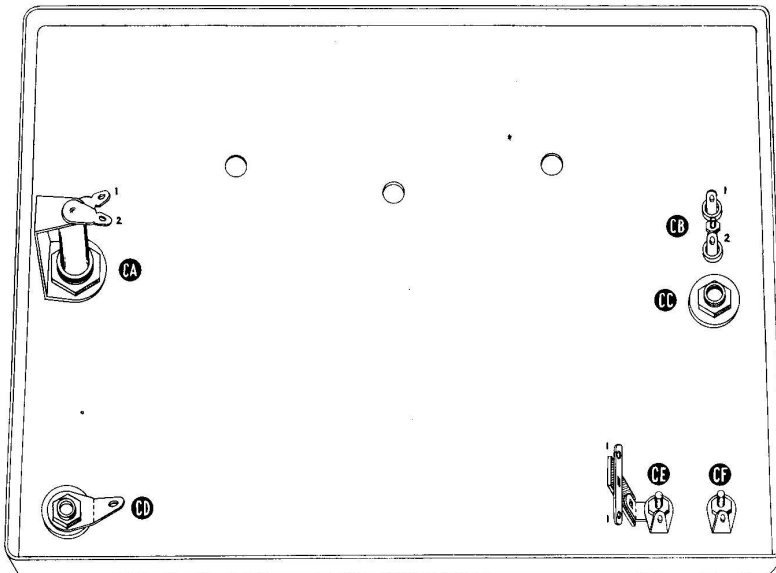

Figure 11
- ( ) Insert a binding post base through hole CE in the panel, a single lug terminal strip and a solder lug. Secure with a 6-32 nut. Orient the parts as shown in Figure 11.